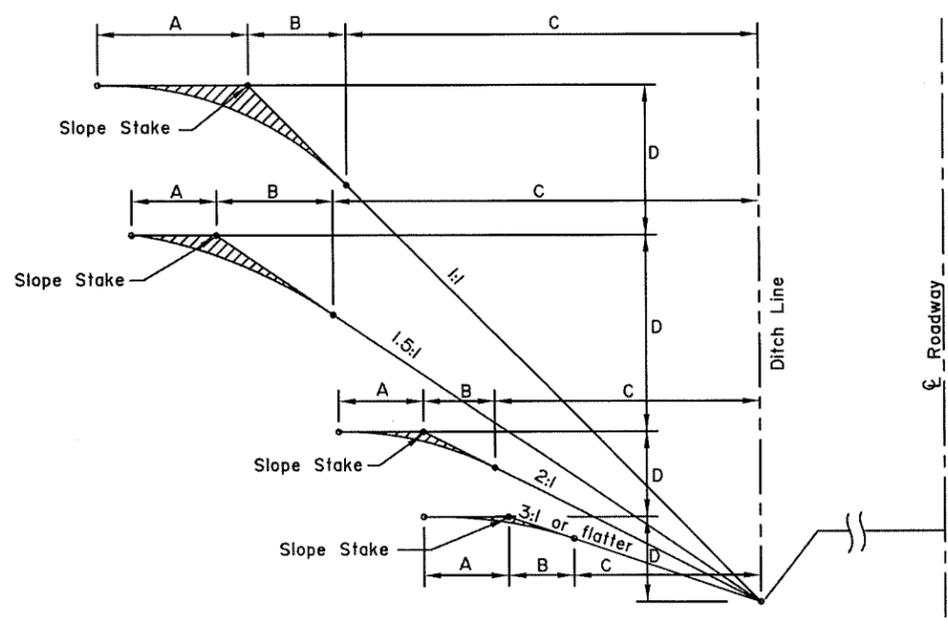

FIG. 1
- Cut and fill slopes shall be rounded as shown in fig. 1, 2, and 3 when required by the plans or special provisions. Rounding of fill slopes shall be done in the same manner as shown for cut slopes.